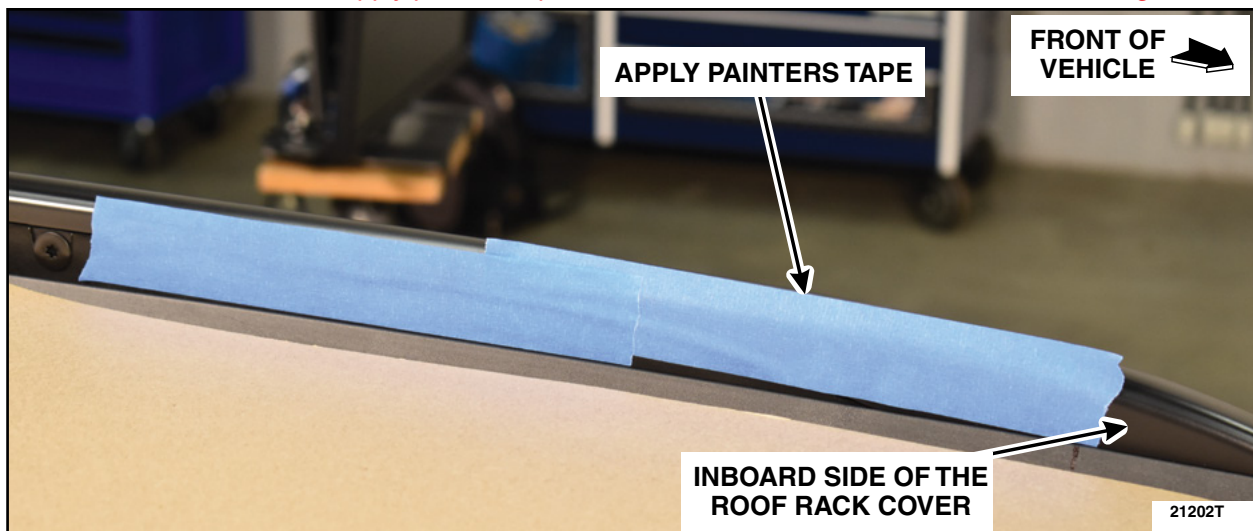

FIGURE 17
6. At the front of the vehicle, apply painters tape to the inboard end of the roof rack cover. See Figure 17.